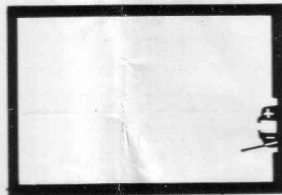

Fig. 17
4. If the indicator needle remains stationary at the minus position (Fig. 17), rotate the Aperture Ring counterclockwise until the needle is centered between the plus and minus signs